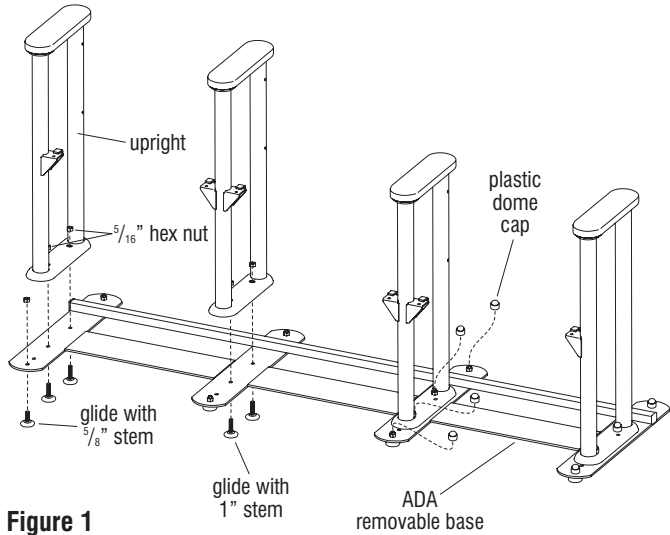

Figure 1
1. Locate the glides that attach below the base strips. Glides with $\frac{5}{16}$ " long stems must be installed at the end of the foot, while the glides with 1" long stems install in the middle of the base strips. Insert the appropriate glides up through the ADA base and the mounting holes in the foot of each upright. Secure the components together with $\frac{5}{16}$ " hex nuts on the glides (Figure 1).
2. Place a plastic dome cap on top of each glide stem, above the installed $\frac{5}{16}$ " hex nut (Figure 1).